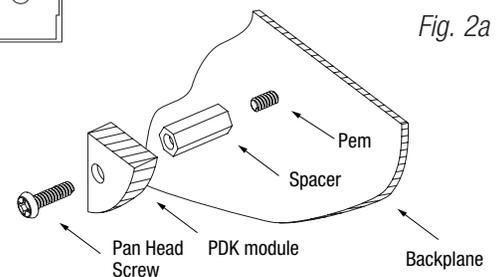

Fig. 2a
2. Position PDK modules over corresponding spacers and mount them utilizing pan head screws (provided) (Fig. 2a, pg. 3).